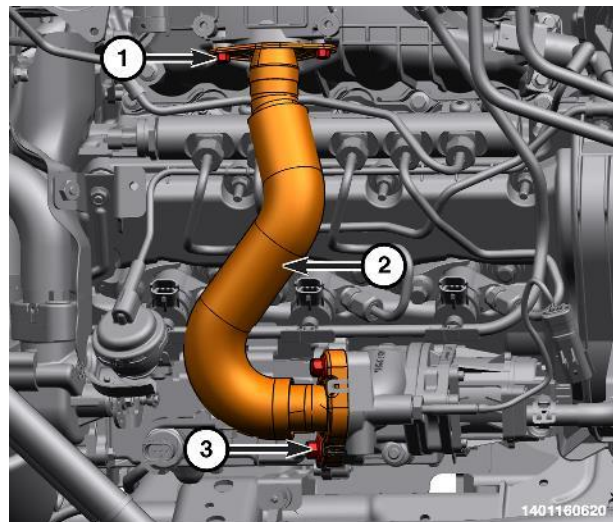

Figure 31 – HP EGR Tube
22. Remove the left side bolts (1) from the upper High Pressure (HP) Exhaust Gas Recirculation (EGR) tube (2) (Figure 31).
23. Remove the right side bolts (3) and the upper HP EGR tube (2). (Figure 31).
61. Install the upper HP EGR tube (2), a new gasket, and reuse the O-ring. (Figure 31). Tighten fasteners to: